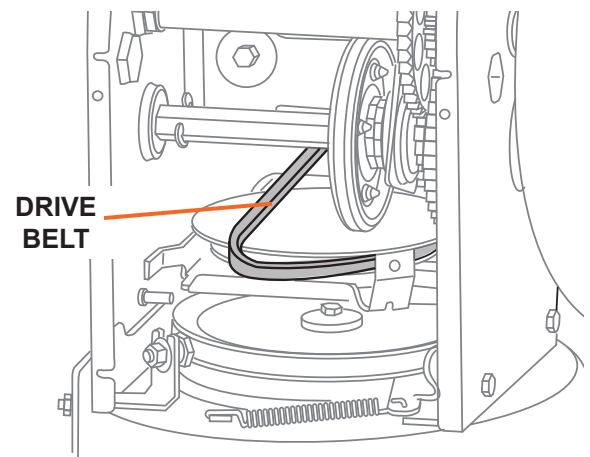

Figure 25
5. Remove the belt from the drive pulley, slip the belt between the support bracket and the drive pulley (see Figure 25).